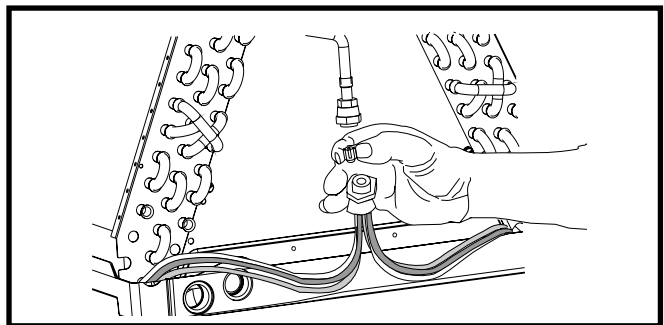

Figure 8. Installation Of New Orifice
8. Insert the new orifice into the distributor body, rounded end down. See Figure 8.